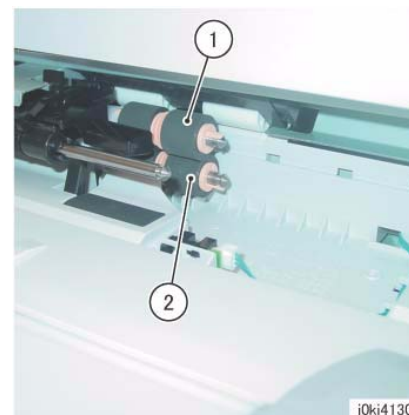

Figure 4 Remove the Feed/Retard Rolls
6. Remove the Feed/Retard Roll. (Figure 4)